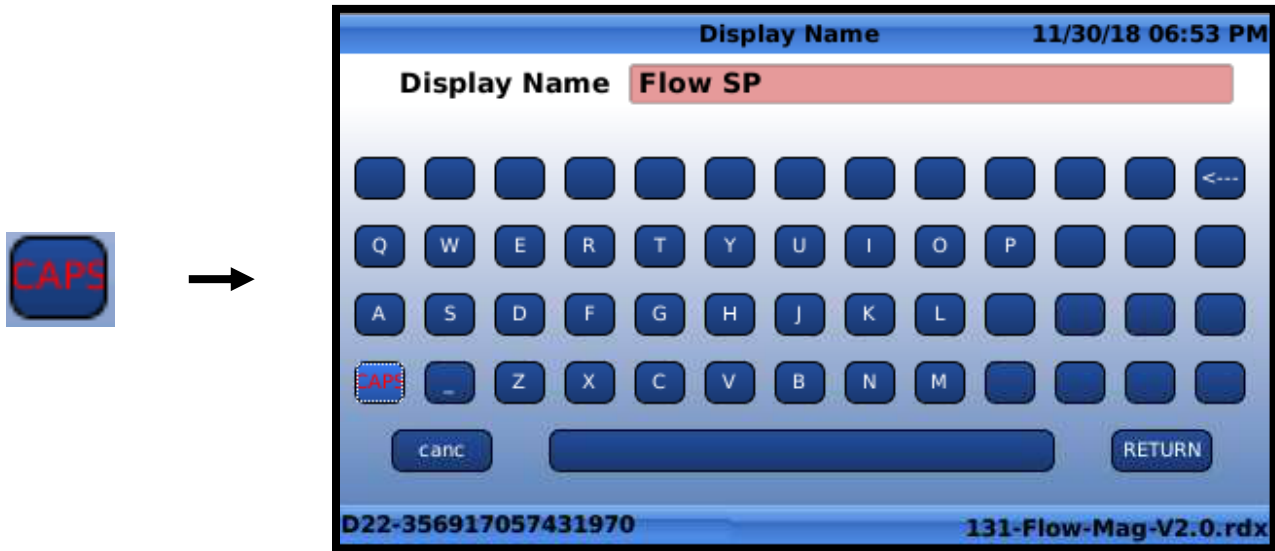

Figure 4.21
- To switch between lower case and upper case, highlight the “CAPS” button and press “OK”. When “CAPS” is active, the button text becomes red and alpha characters become CAPITALIZED as shown in **FIGURE 4.21**: